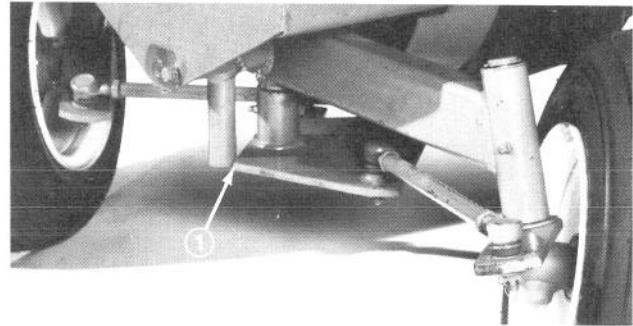
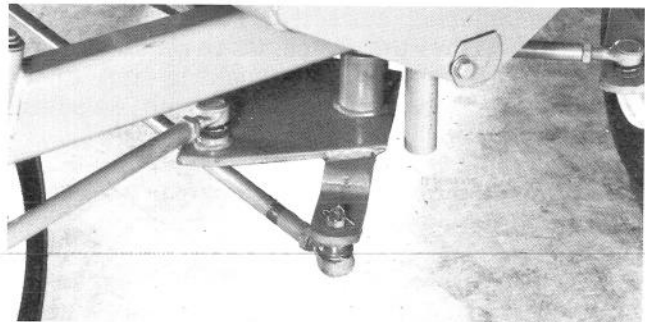

Figure 65
Figure 66
4. Turn steering wheel completely to the right until it bottoms out in steering gear box. Check steering plate with respect to stop on rear axle pivot (Fig. 65). Steering plate must contact the stop. If parts do not contact, loosen jam nuts on rear steering rod (Fig. 66). Shorten the rear steering rod until steering plate contacts the stop while steering wheel is locked for a full right turn (Fig. 65).